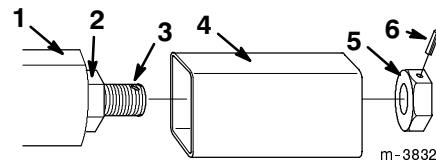

Figure 4
8. Insert the end of the boom into the adjusting chamber so that the adjustor slides through the small hole in the back of the adjusting chamber (Fig. 4).
9. From the back side of the adjusting chamber, thread the adjustment nut onto the adjustor until it is flush with the end of the adjustor and the mark you made across the two parts in step 5 lines up (Fig. 4).
10. Install the roll pin into the adjustment nut (Fig. 4).